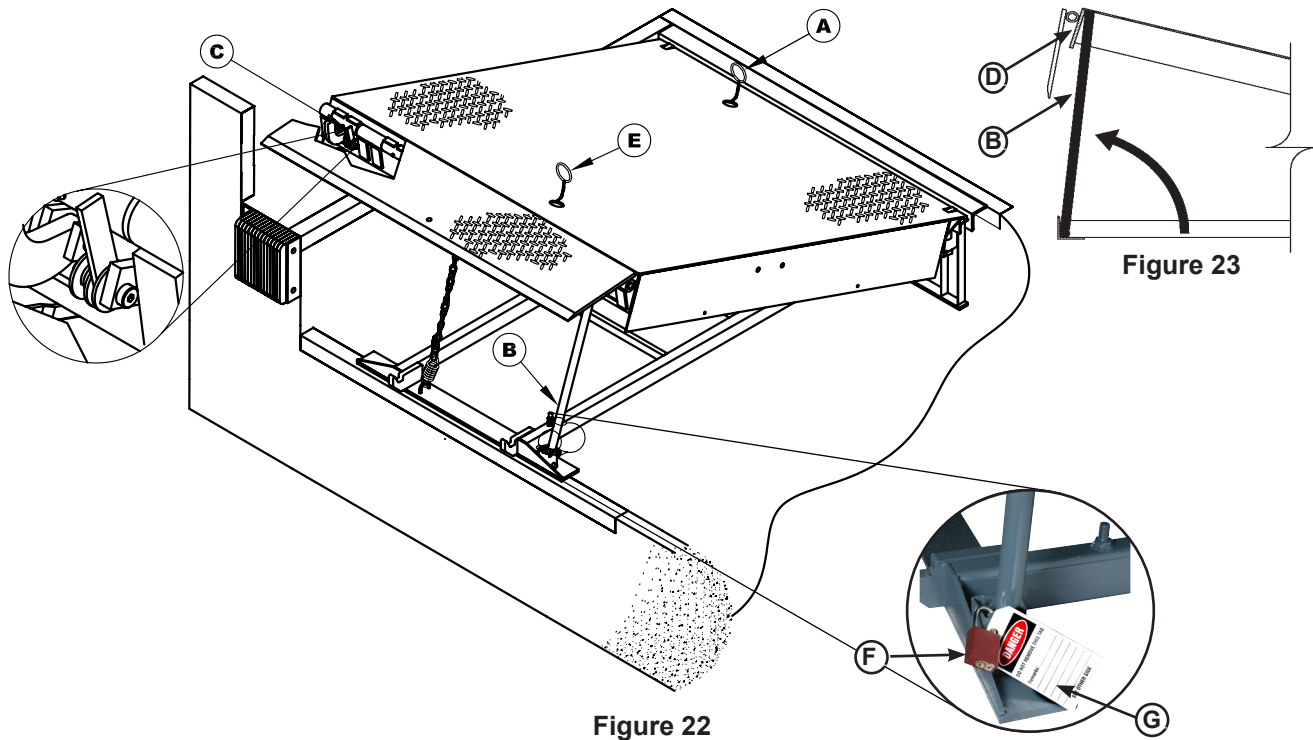

Figure 22
Whenever maintenance is to be performed under the dock leveler platform, support the platform with maintenance prop (B). Position the maintenance prop behind front header plate (D) while staying clear of the lip. Lock the maintenance prop in the service (upright) position using an OSHA approved lockout device\* (F) and tag out device\* (G). See Figures 22 and 23.